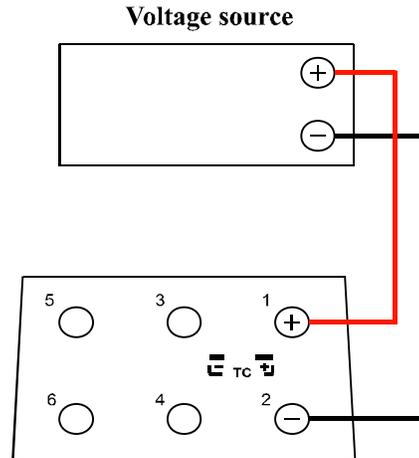

FIGURE 8
3. Hi Calibration: Connect a Voltage Source (Set to 100.00mV) to terminals 1 and 2 of the 830 (See figure 8). Press *STORE/RESET* and then press *TYPE/ENG UNITS*.
3. Hi Calibration: Connect a Voltage Source (Set to 10.00V) to terminals 1 and 2 of the 830 (See figure 8). Press *STORE/RESET* and then press *TYPE/ENG UNITS*.
1. Switch the 830 to T/C. Place the toggle switch to the center position. Connect a Voltage Source to the T/C terminal of the 830 (See figure 8).